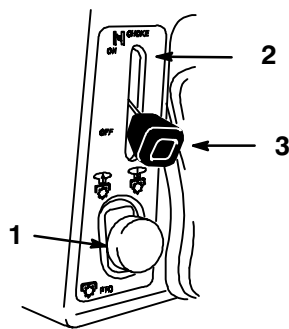

Figure 4
4. Move the choke lever to “ON” (Fig. 4).
- After the engine starts, move the choke lever to “OFF” (Fig. 4). If the engine stalls or hesitates, move the choke lever back to “ON” for a few seconds. Then move the throttle lever to desired setting. Repeat this as required.